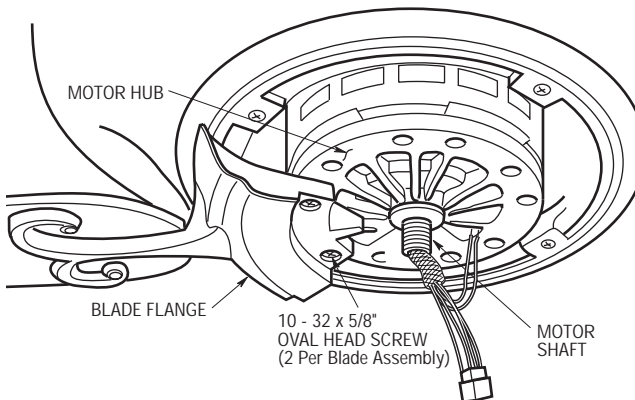

Figure 14
3. Attach one blade assembly to the motor hub using two 10-32 x 5/8" oval head screws (supplied) (Figure 14). Do not tighten completely at this time. Install remaining blade assemblies in the same way. Gently snug all flange screws to the motor hub, working around the hub in a clockwise sequence. Next, securely tighten all flange screws, again working in a clockwise sequence. Failure to follow this procedure could result in fan wobble. This completes the blade installation.